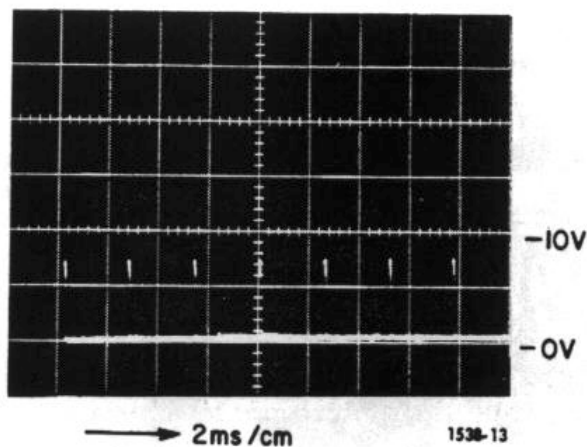

Figure 4-4. Voltage waveform at the panel OUTPUT jack (24,000 RPM).
- (1) Set the RPM range switch to CAL and the dial to 3800 RPM. The CALIBRATE lamp should now operate with a pulsating glow. If it does, the trouble must be in the trigger generator (transistors Q505, Q506, Q901).
- (2) If the CALIBRATE lamp is not operating, check the waveform at the panel OUTPUT jack (see Figure 4-4) or set the RPM controls to 150000 RPM and determine that some voltage is present at the jack; use a high-impedance meter on the $\sim 3\text{Vac}$ range. Correct waveform or voltage indicates trouble in the trigger generator (Q505, Q506, or Q901); an incorrect result indicates trouble in the oscillator section, Q101, Q102, Q103.
- (c) If the CALIBRATE lamp is not operating (with a pulsating glow, step (b), above), check for proper waveform at the OUTPUT jack (see Figure 4-4); or set the RPM controls to 150,000 RPM and determine that some voltage exists at the OUTPUT jack. Incorrect waveform or voltage indicates that the oscillator circuit (Q101, 102, 103) is not functioning properly.
- c. Observe the waveform at the OUTPUT jack (see Figure 4-4). Unevenly spaced pulses indicate erratic operation of the oscillator section.